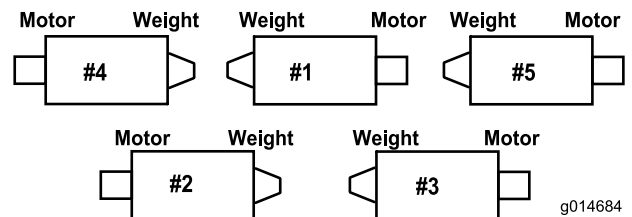
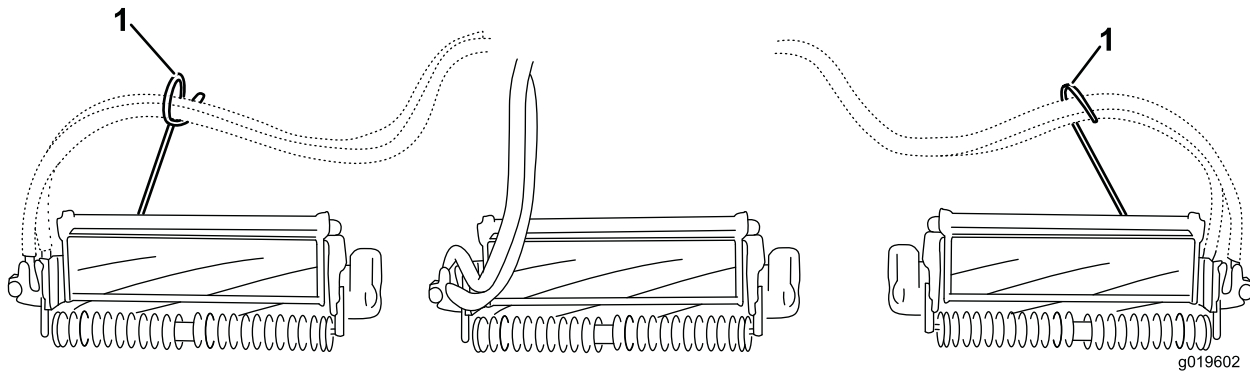
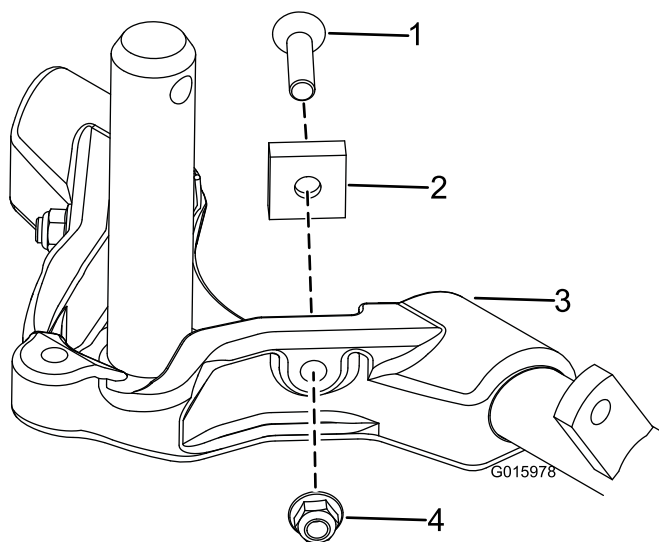

Figure 12
Figure 14
Figure 15
Important: On the #4 (left front) and #5 (right front) cutting units, use the rod bracket mounting nuts to install the hose guides to the front of the cutting unit tabs. The hose guides should lean toward the center cutting unit (Figure 12 through Figure 14).
6. On 27 inch cutting units only, increase the steering on the rear cutting units by removing the (2) pivot spacers, hex socket screws and flange lock nuts (Figure 15) from the rear (#2 and #3) cutting unit carrier frames (Figure 12).